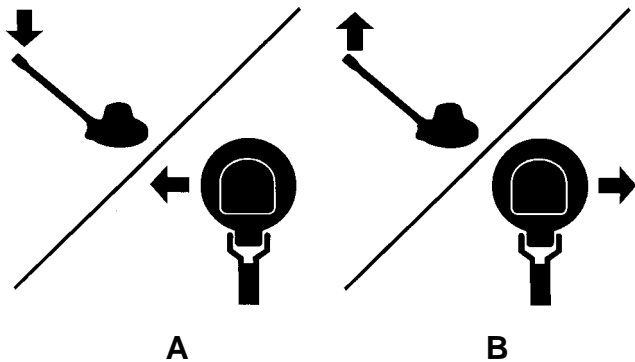

FIG. 6
6. To move the machine left (A), slightly lower the handle. To move right (B), slightly raise the handle. Operate the machine with a side to side motion (Figure 6).